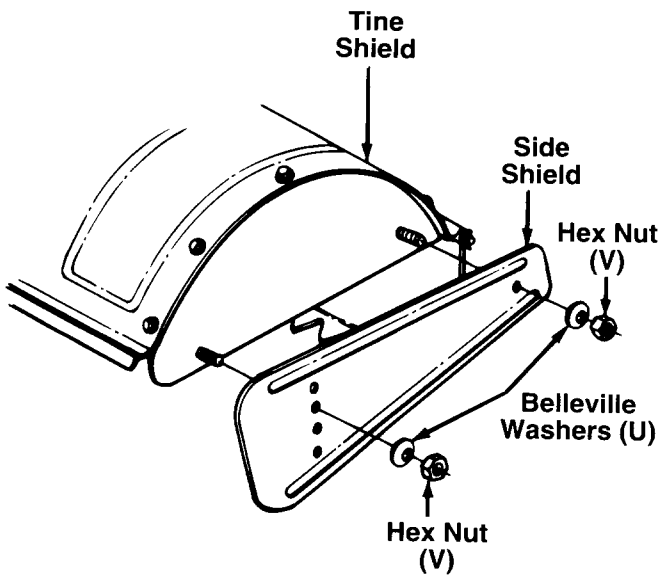

FIGURE 15.
24. Assemble the side shields to the tine shield using belleville washers (U) (cupped side against the side shields) and hex nuts (V) as shown in figure 15. The side shields will be adjusted up or down as the depth bar is adjusted. Refer to "How to Use Your Tiller" on page 9.